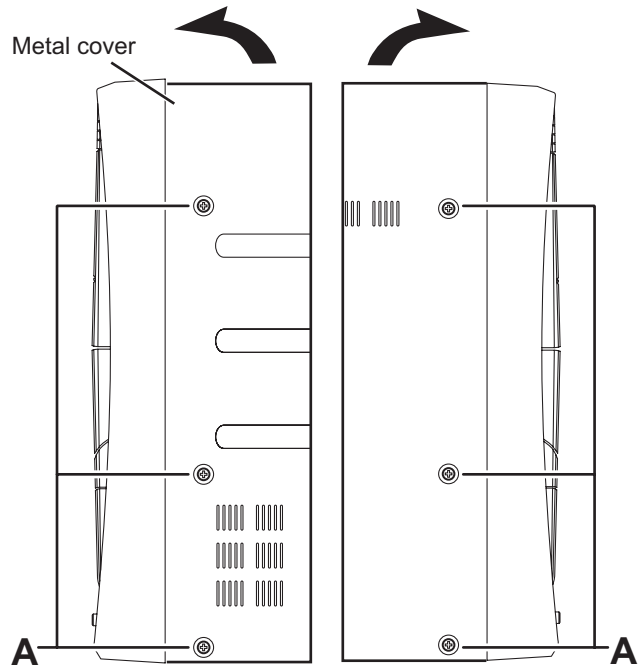

Fig.1
(See Fig.1, 2)
- (1) From the both sides of the main body, remove the six screws **A** attaching the metal cover. (See Fig.1)
- (3) Remove the metal cover from the main body while lifting the rear section of the metal cover in the direction of the arrow. (See Fig.1)